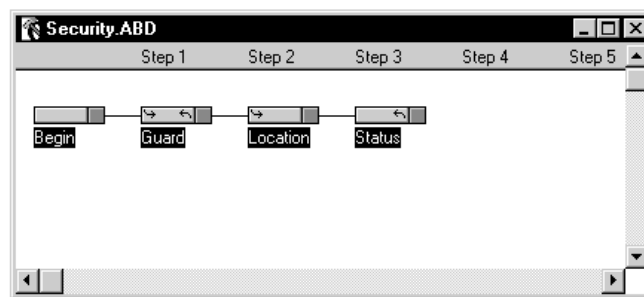

Figure 4-4 All Input Handlers Selected
3. The application window should look like Figure 4-4 when all of the Input Handlers are selected.